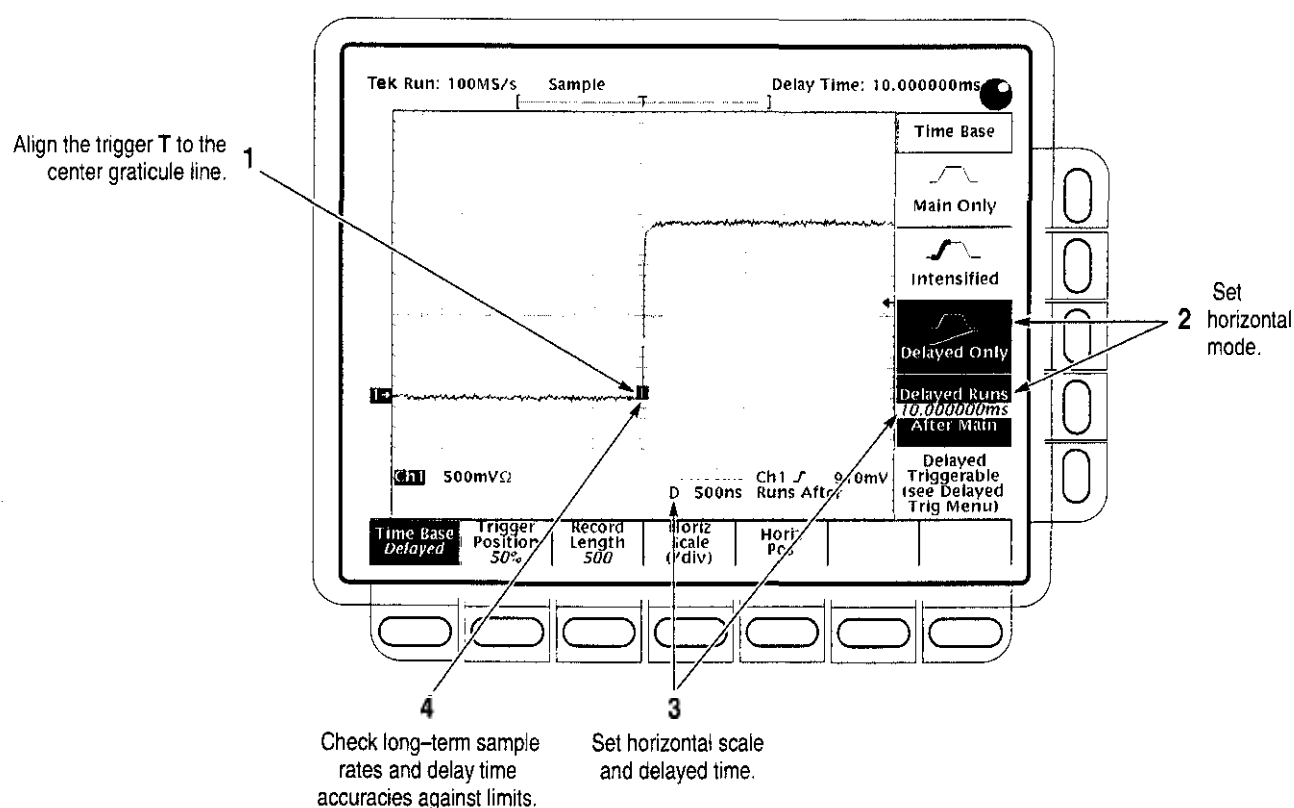

Figure 1-12: Measurement of Accuracy — Long-Term and Delay Time
- Align the trigger **T** to the center vertical graticule line by adjusting the horizontal **POSITION**. See Figure 1-12 on page 1-43.
- Set horizontal modes. To do this, press the main-menu button **Time Base**. Press the side-menu buttons **Delayed Only** and **Delayed Runs After Main**. See Figure 1-12.
- **CHECK** that the rising edge of the marker crosses the center horizontal graticule line at a point within either ± 2.0 , for the TDS 684A, or ± 2.5 , for the TDS 744, divisions of center graticule. See Figure 1-12.